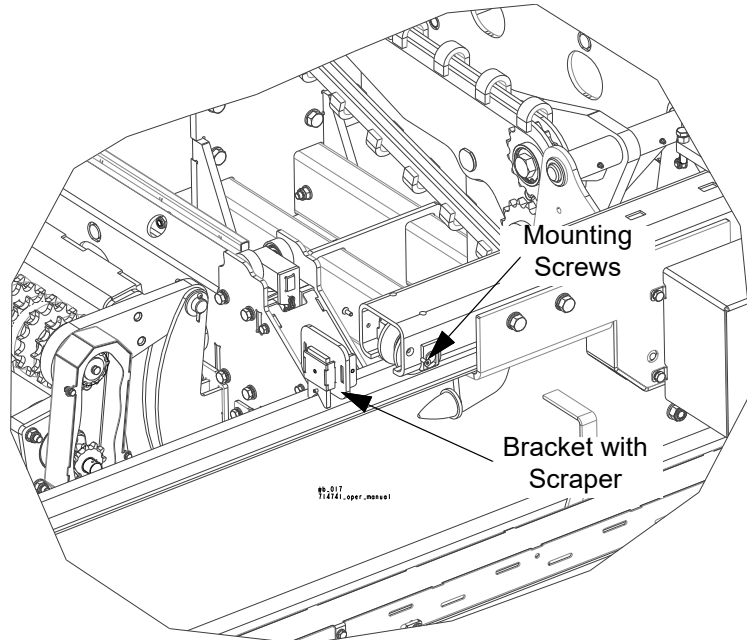

FIG. 6-4
See **Figure 6-4** Remove the mounting screws and dismount the scraper brackets (4).